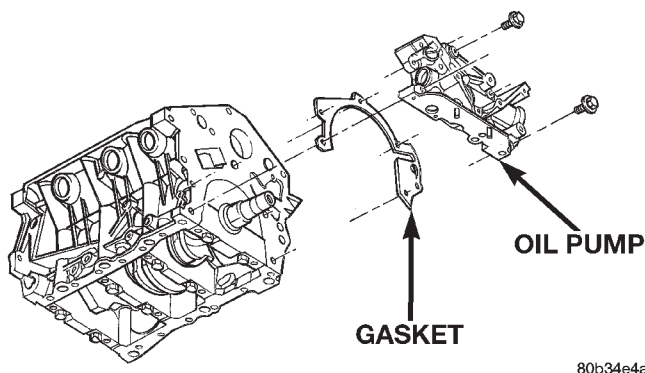

Fig. 92 Oil Pump—Removal and Installation
(1) Drain cooling system and remove fan module for access to timing belt covers and crankshaft damper. Refer to Group 07, Cooling Systems for procedures.
(2) Remove the accessory drive belts. Refer to Group 07, Cooling System for procedure.
(3) Remove the crankshaft damper. Remove timing belt covers. Refer to procedure outline in this section.
(4) Remove timing belt. Refer to procedure outlined in this section.
(5) Remove crankshaft sprocket. Refer to front oil seal service procedure outlined in this section.
(6) Remove oil pan. Refer to procedure outlined in this section.
(7) Remove oil pickup tube.
(8) Remove oil pump fasteners and remove pump and gasket from engine (Fig. 92).